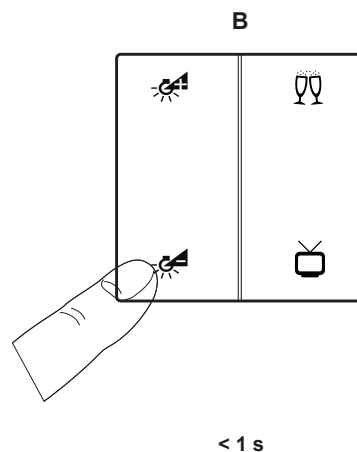

Figure 29: Setting new scene parameters
- Change lighting intensity, dim up or down (Figure 29, B)